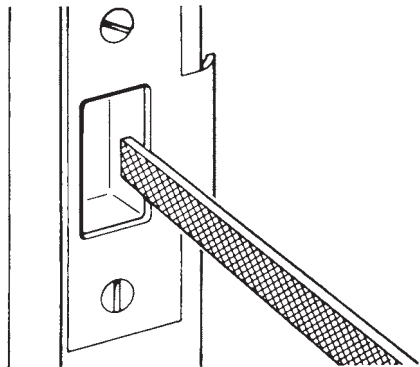

Figure 13.6 File to correct bolt-strike misalignment.
- When a key operates the latchbolt or deadbolt with difficulty, it is usually due to bolt-strike misalignment (Fig. 13.6).